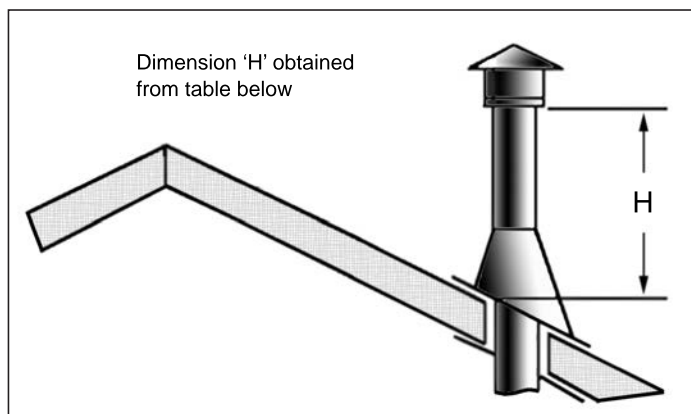

Figure 52: Height of Vertical Termination;
- Step 8.** Continue to add pipe sections until the height of the vent cap meets the minimum code requirements. Refer to Figure 52 and Table 7. Note that for steep roof pitches, the vent height must be increased. In high wind conditions, nearby trees, adjoining roof lines, steep pitched roofs, and other similar factors can result in poor draft, or down drafting. In these cases, increasing the vent height may solve the problem.
Table 7: Minimum 'H' for Figure 52.
There is an electrical box located in the cabinet on the left side of the fireplace. The Power wire connection is to be made inside the electrical box. There is a strain relief on the outside of the cabinet to secure the wiring in place. The receptacle should be wired as shown in figure 52. If wiring the convection fan kit or light kit options please see wiring diagrams.